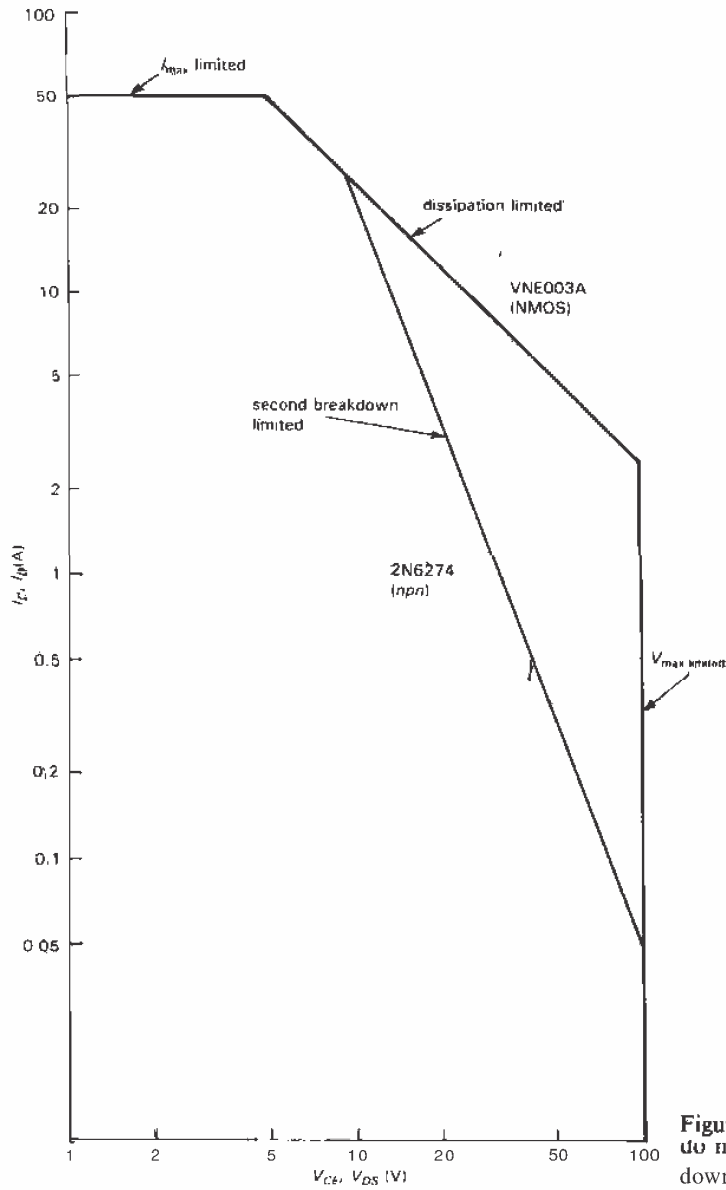

Figure 3.66. Power MOSFETs do not suffer from second breakdown.
these junction hot spots entirely. MOSFETs have no second breakdown, and their safe operating area (SOA) is limited only by power dissipation (see Fig. 3.66, where we've compared the SOAs of an *npn* and an NMOS power transistor of the same I_{\max} , V_{\max} , and P_{diss}). For the same reason, MOSFET power amplifiers don't have the nasty runaway tendencies that we've all grown to love in bipolar transistors (see Section 2.15), and as an added bonus, power MOSFETs can be paralleled without the current-equalizing "emitter-ballasting" resistors that are necessary with bipolar transistors (see Section 6.07).
- **MOSFETs versus BJTs as high-current switches.** Power MOSFETs are attractive alternatives to conventional power BJTs most of the time. They currently cost somewhat more, for the same capability; but they're simpler to drive, and they don't suffer from second breakdown and consequently reduced safe-operating-area (SOA) constraints (Fig. 3.66).